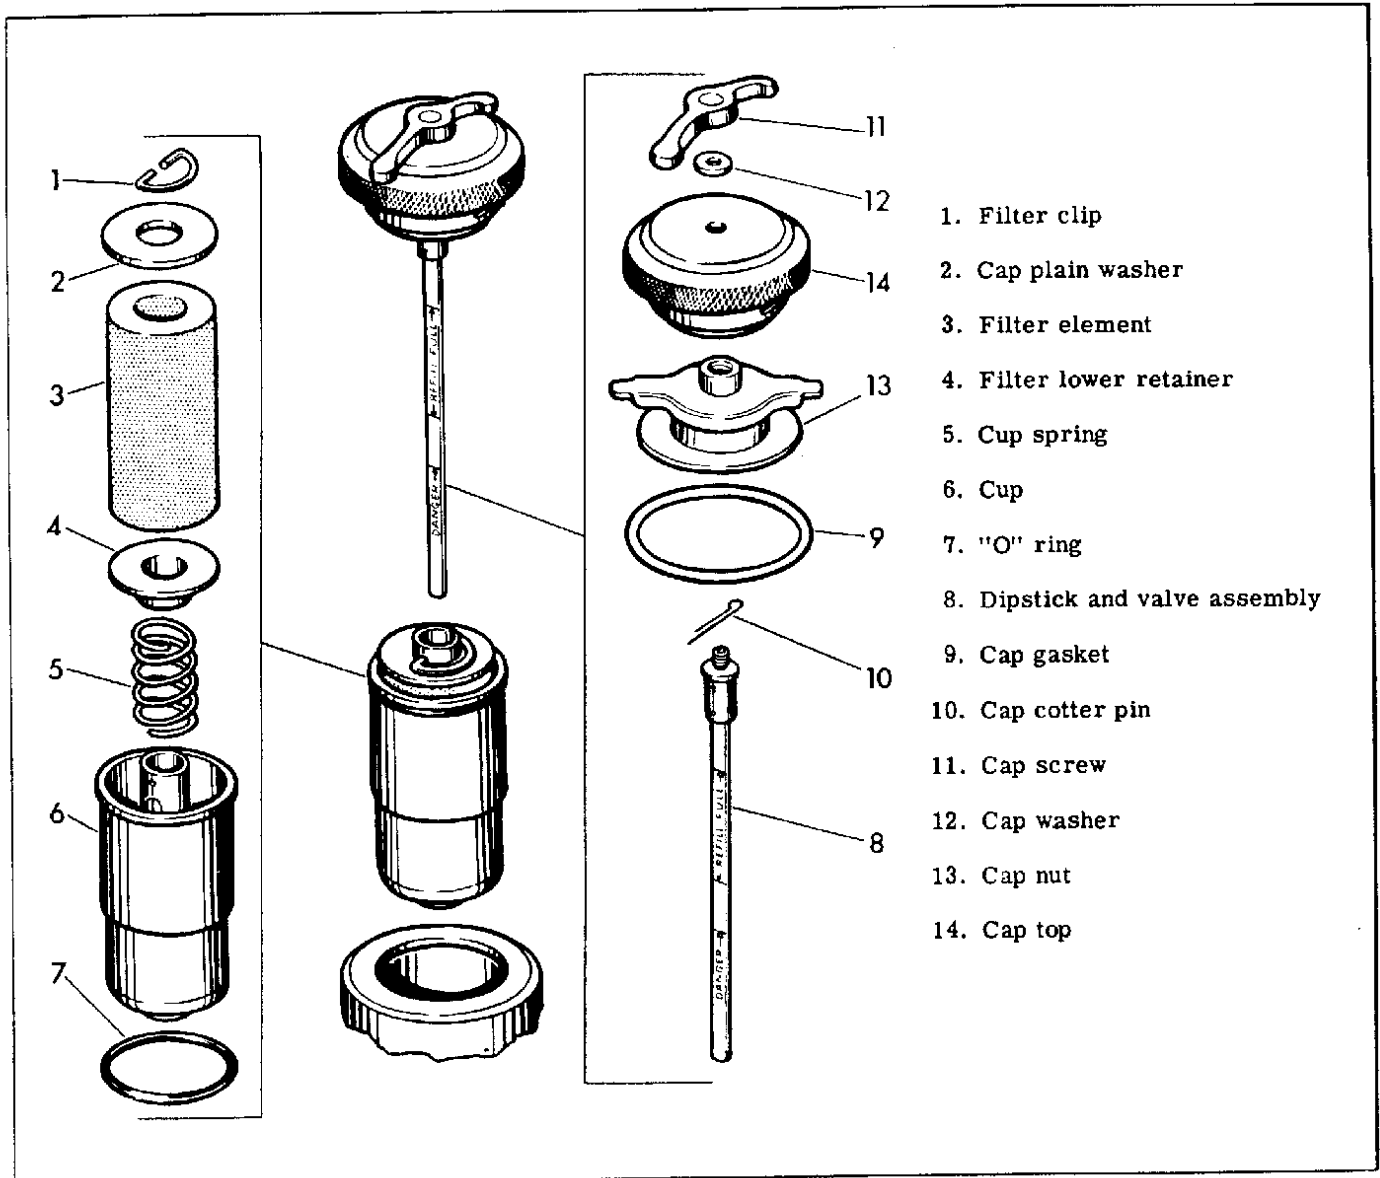

Figure 3A-2. Oil Tank Filter - Exploded View
All models specially equipped with large, 51 ampere hour battery are fitted with an external oil tank located to right side of battery case, under the seat. The tank is equipped with a large mouth filler opening and a screw cover. As optional equipment, this tank may be fitted with an internal oil filter (see Fig. 3A-2).
**SERVICING OIL TANK CAP AND FILLER OPENING.** To disassemble, follow order shown in Fig. 3A-2. Assembly is reverse order of disassembly. Clean and inspect all parts. Replace any that are worn or damaged.
#### PRESSURE OIL SYSTEM (Fig. 3A-3)